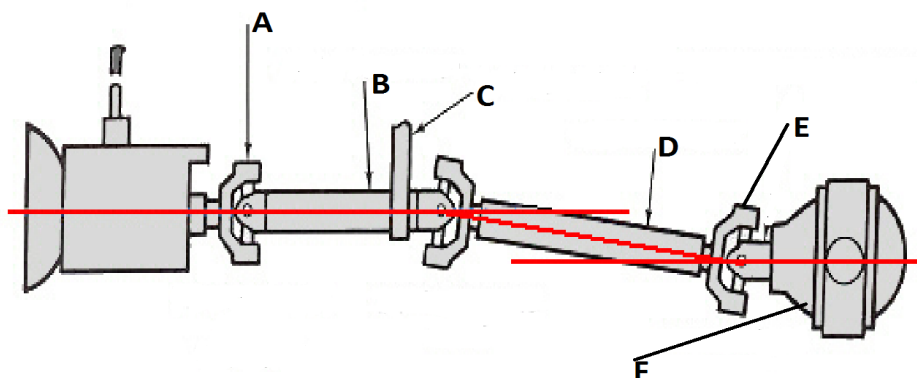

**FIGURE 3**
- 4.1 Identify the components of the synchronising unit in FIGURE 3 below, by writing the answer next to the letter (A–F) in the ANSWER BOOK.
- 4.2 Explain how the synchronising unit in FIGURE 3 works during a gearchange. (5)